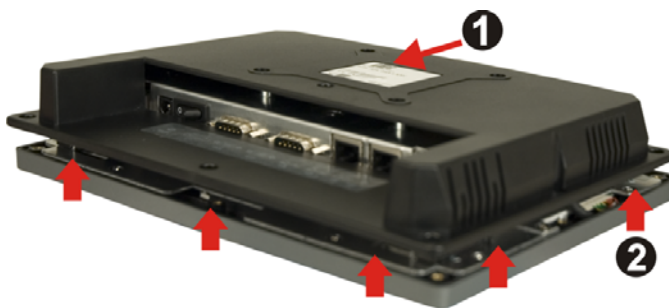

Figure 4-2: AFL-xxA-N270 Plastic Back Cover Removal
Step 2: Lift the cover off and pull down the cover a bit to make it possible to lift the cover further more after removing the retention screws (**Figure 4-2**). More strength is required to separate the cover from the chassis.